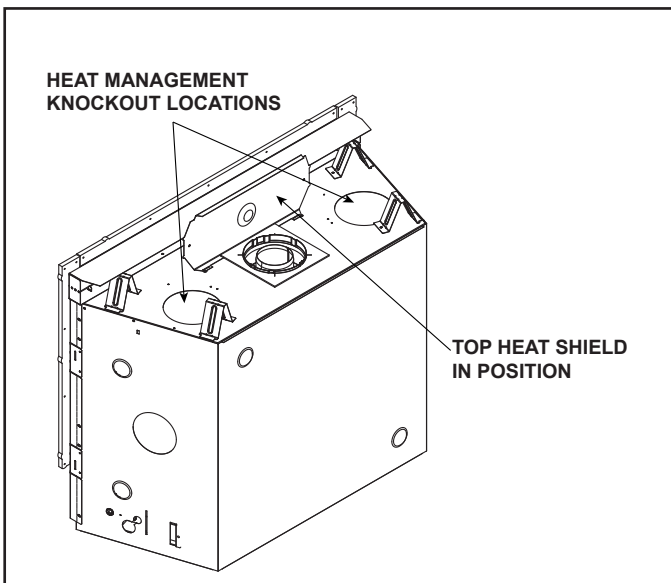

Figure 6.2 Top Heat Shield in Position and Heat-Zone®-240V Gas Locations
2. Fold up top heat shield to 90 degrees as shown in Figure 6.2.
- Locate the two heat management ports on the top of the appliance. Either one or two Heat-Zone®-240V Gas Kits may be installed. See Figure 6.2. Remove the knockouts from the appliance with a tin snips.